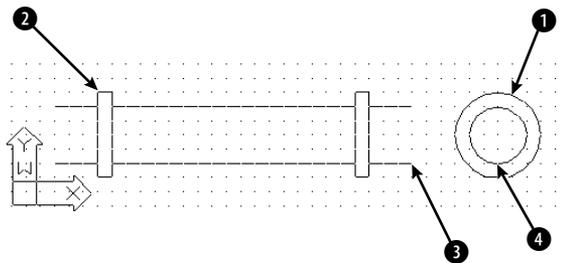

Figure 6-4: A pipe with cross-section.
4. At the **Specify a point or [Hor/Ver/Ang/Bisect/Offset]:** prompt, choose point **1**, shown in Figure 6-4.
5. At the **Specify through point:** prompt, choose point **2**, shown in Figure 6-4.
8. At the Specify start point: prompt, choose point ③, shown in Figure 6-4.
9. At the Specify through point: prompt, choose point ④, shown in Figure 6-4. Press Enter to end the command.